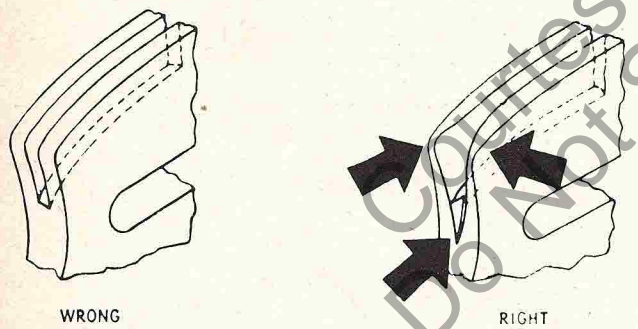

Fig. 25—Cut funnel shaped opening to guide groove with file.
Use a file to funnel the entrance to the guide rail groove of the bar as shown in the "right" view in Fig. 25. If the guide rails are as in the "wrong" view in this illustration, damage to the chain can occur as the chain enters the groove.
**Fig. 33—A.** Tang worn flat from dragging on bottom of shallow guide bar groove. **B.** Tang curved on bottom from shallow groove at nose of guide bar. **C.** Point of tang worn or battered by square corner at groove entry. See Fig. 25. **D.** Front of side links battered by tang catching on too large a bar entry; see (C—Fig. 29).